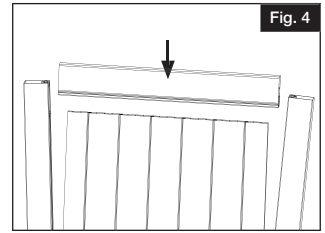

Fig. 4
- a.) For full privacy gates, slide top rail over all boards and insert top rail into upright route on same side as bottom rail (Fig. 4).